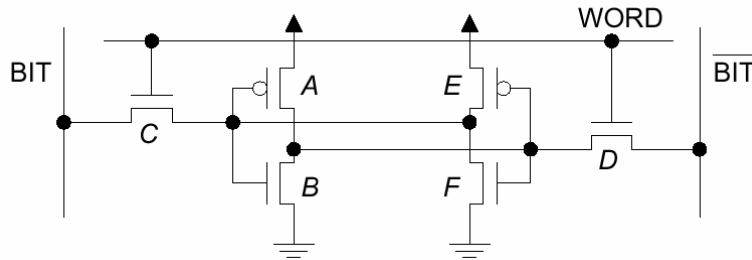

Figure 5. Six-transistor SRAM cell for Problem 5(ii).
- (5 pts) Show whether or not this test can detect all transistor stuck-open faults in an SRAM made of the six-transistor cells shown in Figure 5. For reading, the bit lines are first precharged to 1, and then one line discharges to 0 through the C or D pass transistor. For writing the bit lines are set to the appropriate values and then the $WORD$ line is selected.